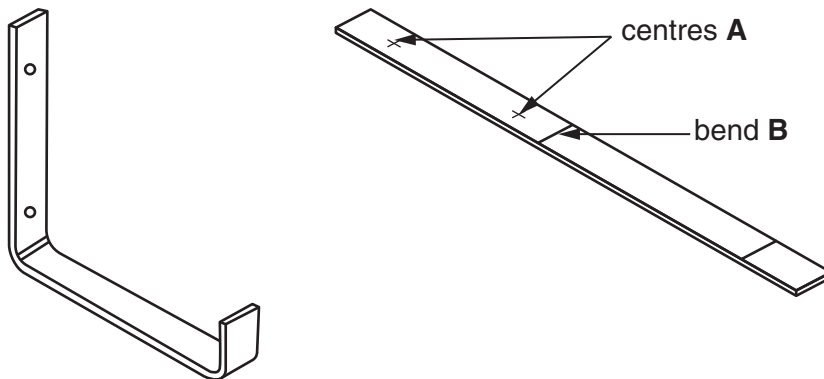

Fig. 15
- (d) Fig. 15 shows one bracket and the strip of 3 mm thick mild steel from which the bracket has been made. Holes will be drilled at centres **A** and the strip will be bent at **B**.